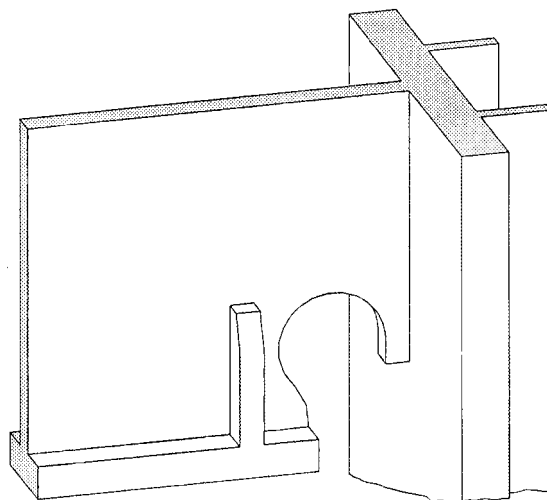

Fig. 5 Ear Solution Repair
- Removing of the crack by cutting out the affected area, grinding and weld stiffening ribs (Ear Solution, Fig. 5).